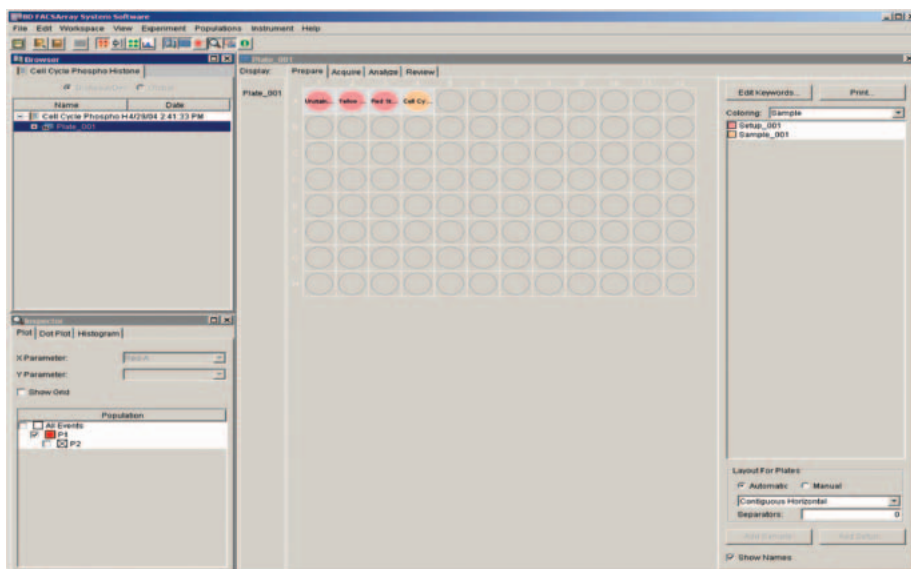

Figure 12
1. In the Prepare workspace (Figure 12), review your plate layout. Click the Prepare tool () in the tool bar to choose the Prepare workspace.